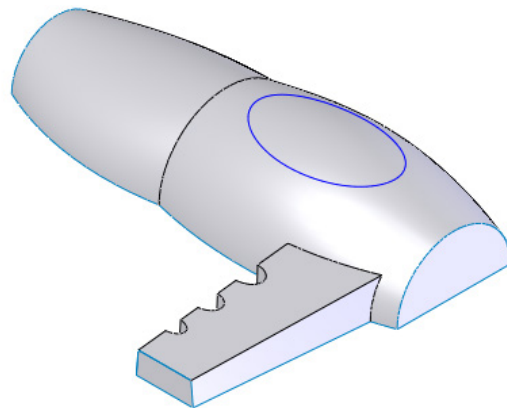

Figure 1-154 Resultant projected curve
3. Next, choose **Curves > Project Curve** from the **Surfaces CommandManager** and project the newly created sketch on the base surface. The model after projecting the sketch is displayed, as shown in Figure 1-154.